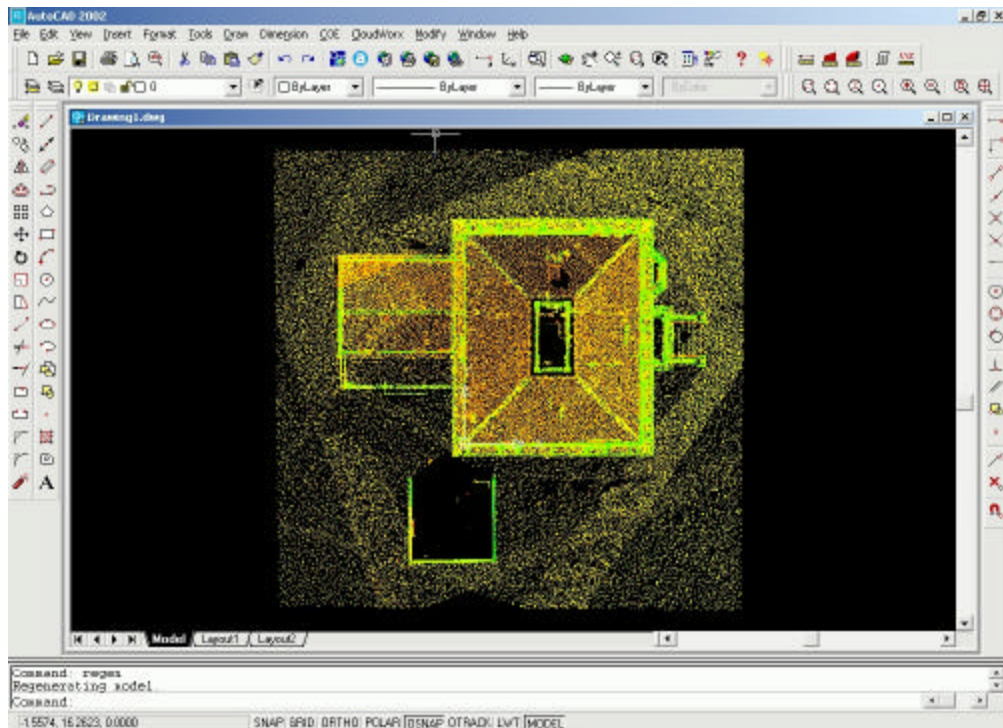

fig 3.1.1
5. The extraneous data is now hidden from view, and your view should resemble Fig. 3.1.1